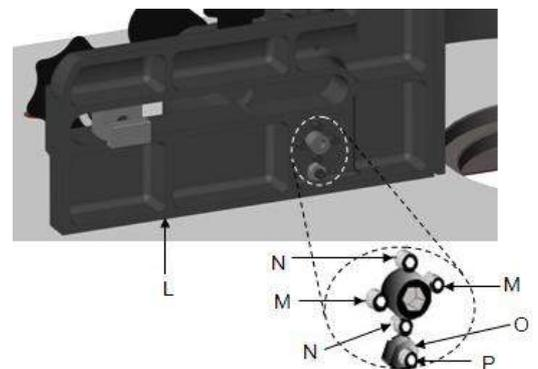
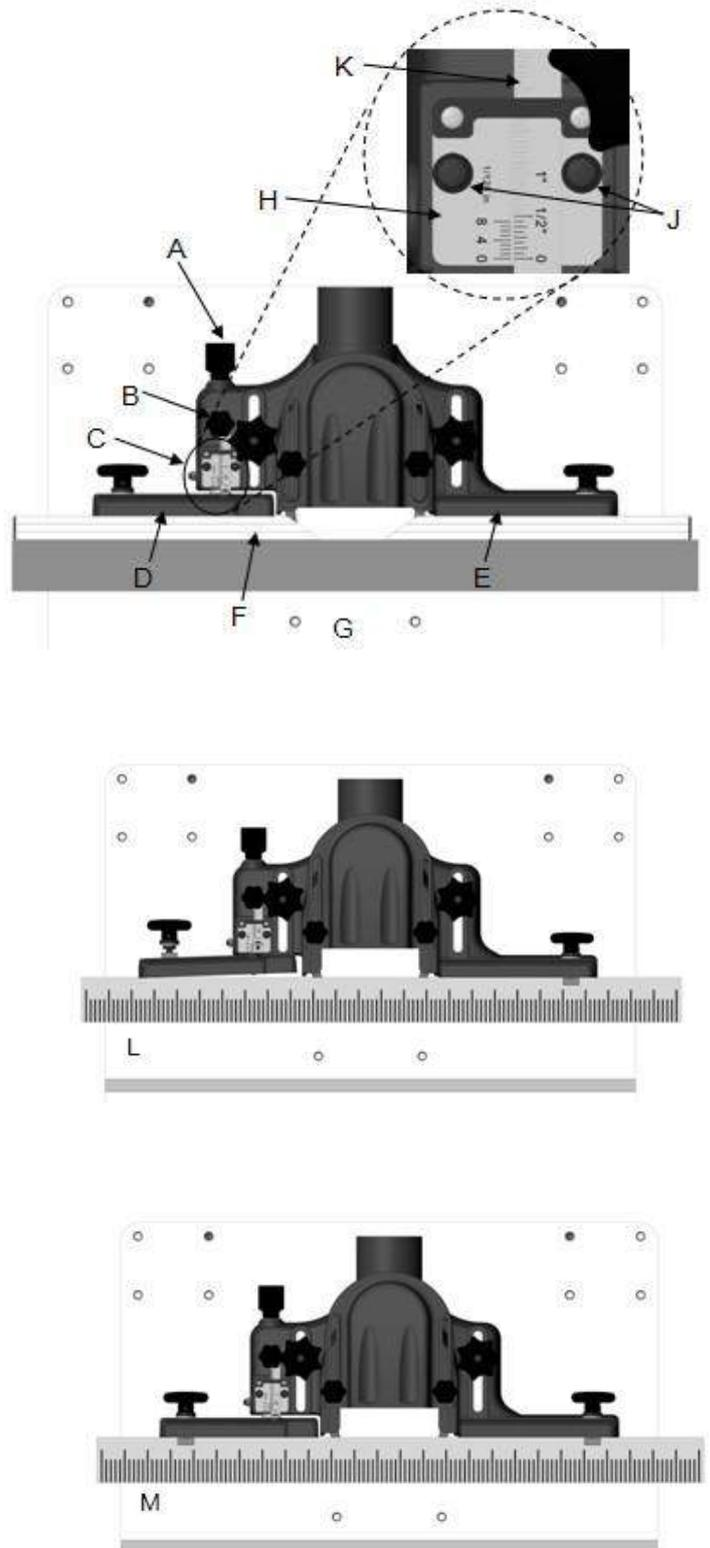
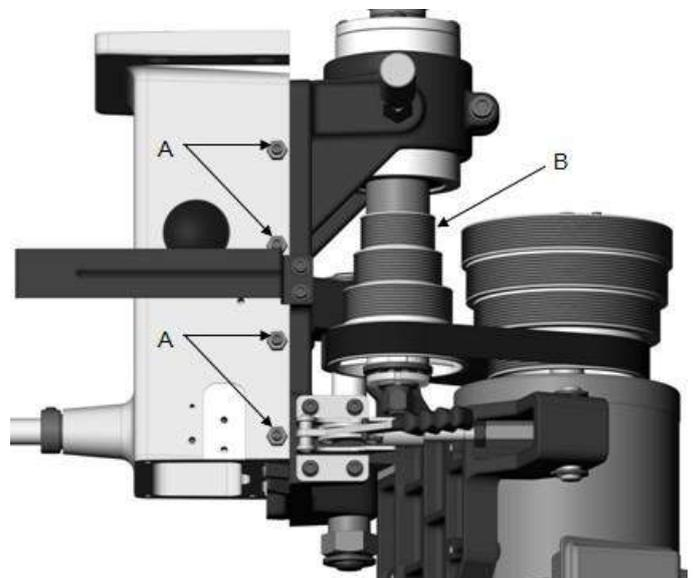

Fig. 10
Fig. 11
Fig. 12
6. Remove both fences (J_1 , J_2) and place the straightedge against the infeed and outfeed fence castings (Fig. 10).
7. Maintain steady pressure of the straightedge against the fence castings (K, Fig. 10). At the same time, attempt to bring both fences into alignment as shown in Fig. 11. This is accomplished by alternately making incremental adjustments to two setscrews (M, Fig. 12) on the front face of the casting (L, Fig. 12) with a 3mm hex wrench, followed by repositioning the casting with the ram adjust dial (Q, Fig. 12) as required.
Important: It is recommended that the adjustment setscrews (M, Fig. 12) be rotated in 1/16th increments or less at a time.
8. Place a square against the casting (L, Fig. 10) and table.
9. If adjustment is required, adjust setscrews N (Fig. 10).
The cutter guard should be removed or raised to provide clearance (Fig. 11).
5. Using a 10mm wrench, loosen the lock nut (O, Fig.10) that secures the zero stop set- screw (P, Fig. 12) on the casting (L, Fig. 10).
6. Loosen or tighten the setscrew (P, Fig.10), as required, to bring fence castings into alignment as shown in M.
7. Tighten lock nut (O, Fig. 10).
The spindle housing gib on your machine is factory adjusted and initially should not require readjustment. After a period of use the gib may wear and become loose, introducing play and potentially causing the spindle (B) to vibrate. This requires adjustment (Fig. 12).